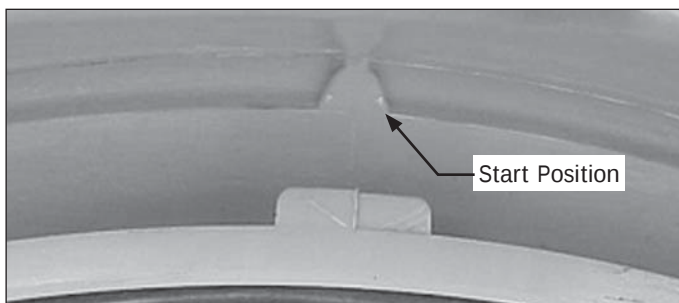

Figure 4-41.
2. There is a tab and an arrow on the top of the tub lip and a slot in the groove and an arrow at the top of the bellows. (See Figure 4-41 & 4-42)